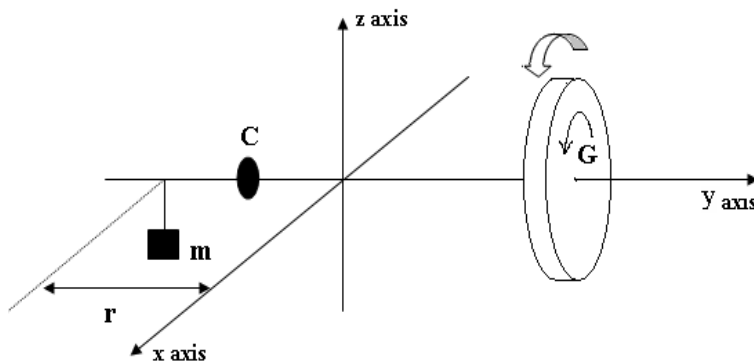

Fig. 2
1. What are the directions of L and τ in the frame of axes shown in Fig. 2?